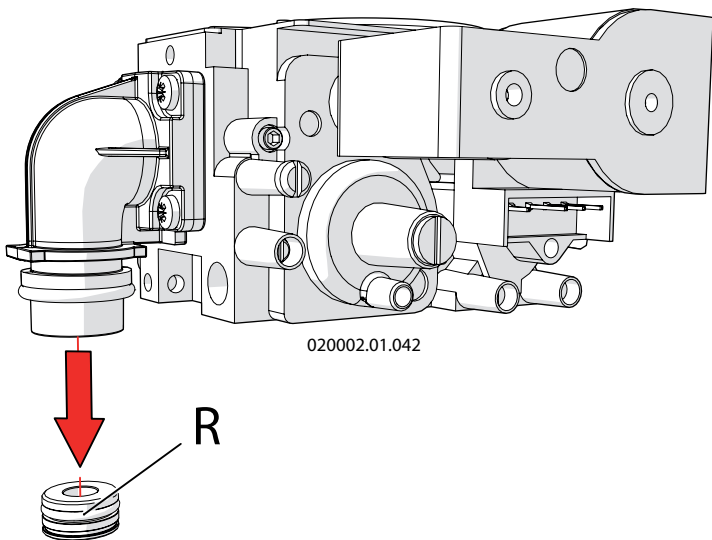

Figure 6-5 - Replacing the gas nozzle
18. - replace the gas nozzle "R" (see figure 6-5) with an appropriate one according to that stated in figure 6-8 under "Diameter of the gas nozzle";